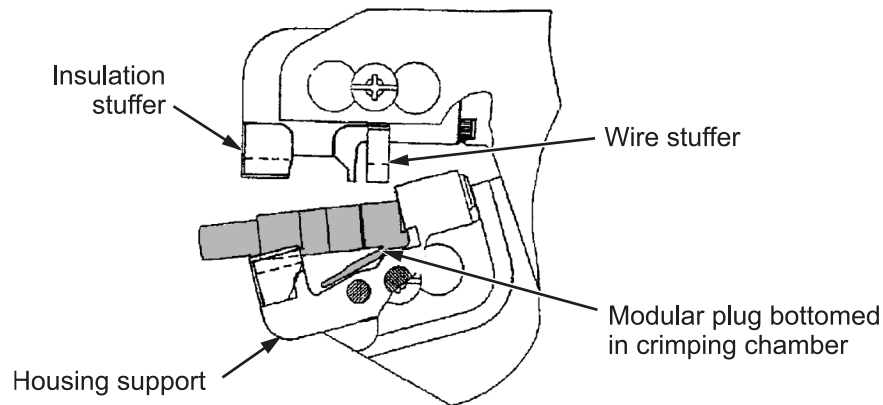

Figure 3. Position of Modular Plug Before Crimping
2. Hold the tool so that the back is facing you. Insert the modular plug (including shield and cable) in the crimping chamber until it bottoms. Refer to Figure 3.